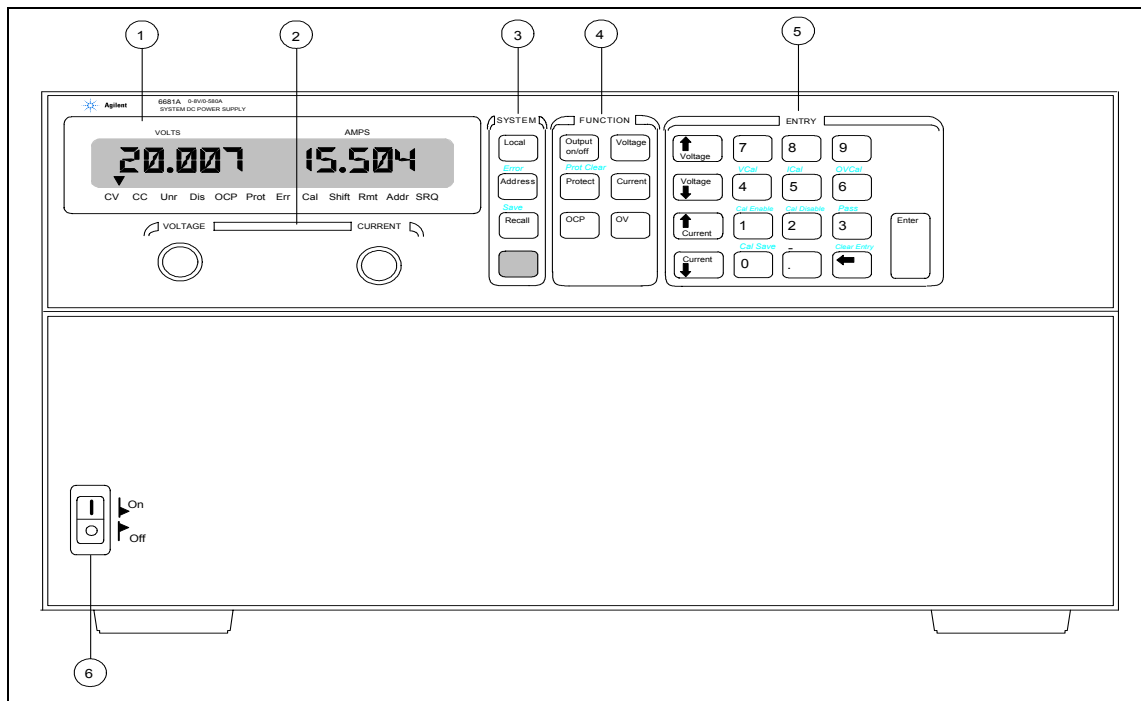

Figure 5-1. Front Panel Controls and Indicators
The front panel is summarized in Figure 5-1 and Table 5-1. Note that the panel is organized as follows:
- ① LCD display (including annunciators)
- ② Output VOLTAGE and CURRENT rotary (RPG) knobs
- ③ SYSTEM keypad
- ④ FUNCTION keypad
- ⑤ ENTRY keypad
- ⑥ Power (LINE) switch
Some keys have two functions. For example, the System **Recall** key (3, Figure 5-1) can be used either to recall a stored operating state or to **Save** (store) an operating state. The first operation is shown **on** the key and the second (shifted) operation is shown in blue **above** the key. In order to do a shifted operation, first press the solid blue key, which is unlabeled but shown throughout this manual as **Shift**.
Table 5-1. Front Panel Controls and Indicators (see Figure 5-1)